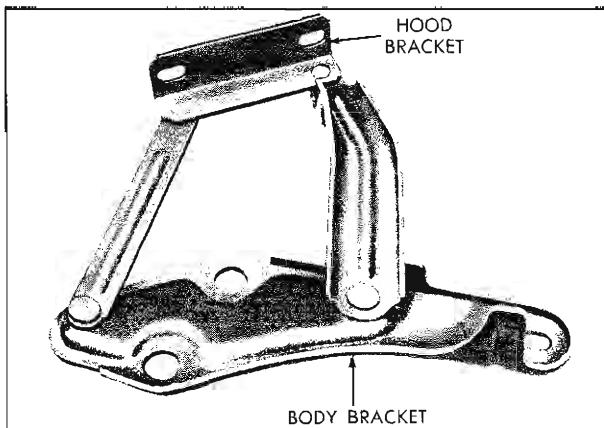

Fig. 10-3 Hood Hinge
1. Slotted holes in the hinge bracket to hood are provided to align hood fore and aft (Fig. 10-3).
The hood is mounted on hinges (Fig. 10-3) mounted to wheel house. Double assist over center springs are used, (one at each hood hinge) both ends of which are fastened to the arms of the hinge. This construction provides hold-open power.
NOTE: The hood may be aligned vertically and fore and aft. Vertical adjustment is made between hinge and wheelhouse assembly. Fore and aft adjustment between hood and hinge (Fig. 10-3).